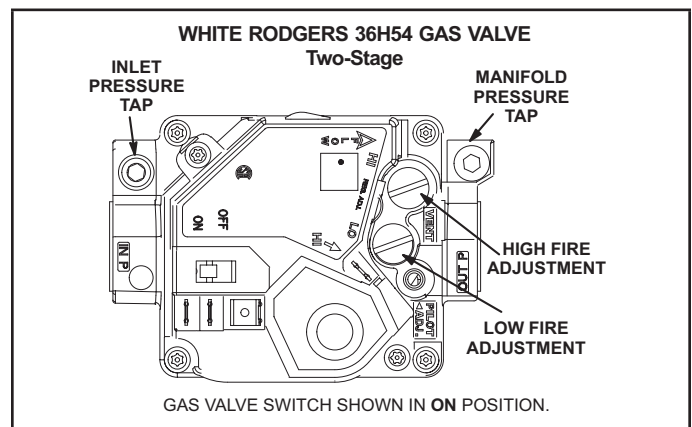
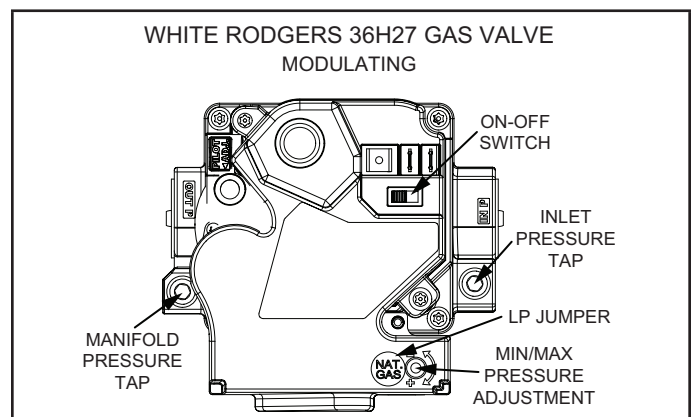

FIGURE 26
FIGURE 27
- 5 - Turn gas valve switch to **OFF**. See FIGURE 26.
- 6 - Wait five (5) minutes to clear out any gas. If you then smell gas, **STOP!** Immediately call your gas supplier from a neighbor's phone. Follow the gas supplier's instructions. If you do not smell gas, go to the next step.
- 7 - Turn gas valve switch to **ON**. See FIGURE 26.
For White Rodgers 36H54 and 36H27 valves (FIGURE 26 and FIGURE 27) manifold pressure, remove the 1/8" hex screw, install 1/8" fitting with hose barb, connect hose from barb to "+" side of measuring device.
- 4 - If necessary, adjust manifold pressure. FIGURE 26 and FIGURE 27 show adjustment screw(s) locations.
For White Rodgers 36H54 and 36H27 valves (FIGURE 26 and FIGURE 27), remove 1/8" fitting with hose barb and reinstall 1/8" hex screw.
For White Rodgers 36H54 and 36H27 valves (FIGURE 26 and FIGURE 27), supply pressure is accessed by removing 1/8" hex screw. Remove the 1/8" hex screw and install a 1/8" fitting with hose barb. Connect tubing from the barbed fitting and route to measuring device to measure supply pressure.